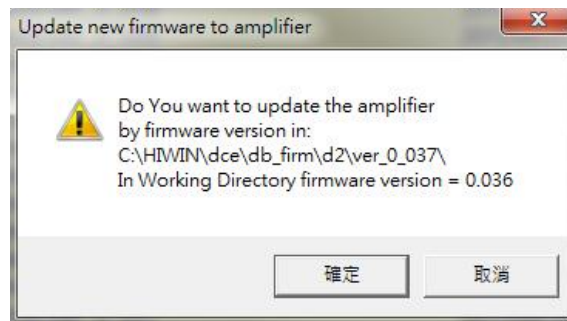

Figure12.1.3
- Step 2: Click the “File” option in the upper left corner of window and select “Update selected firmware to amplifier” to appear the dialog window of figure12.1.3.